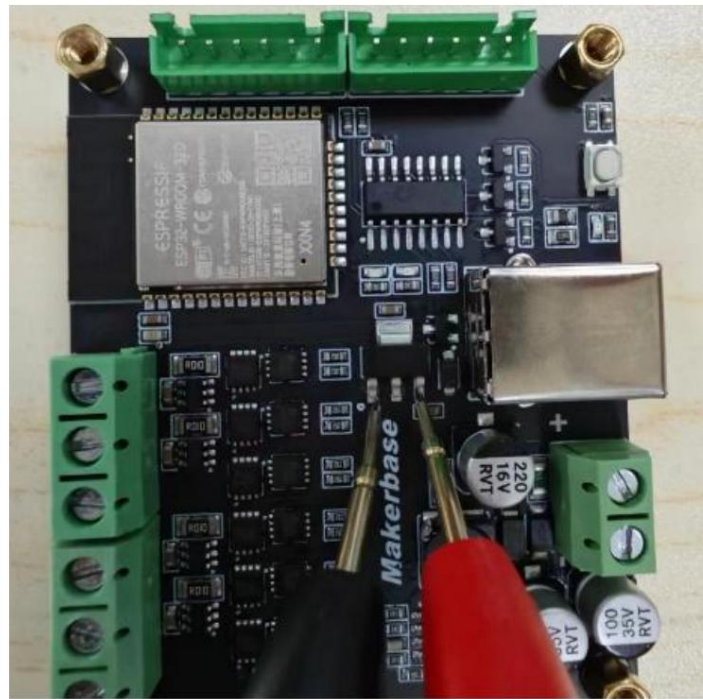

Figure 2 Test whether 5V and GND are short-circuited
2. Use a multimeter to check whether the 5V of the driver board is short-circuited to GND, as shown in Figure 2